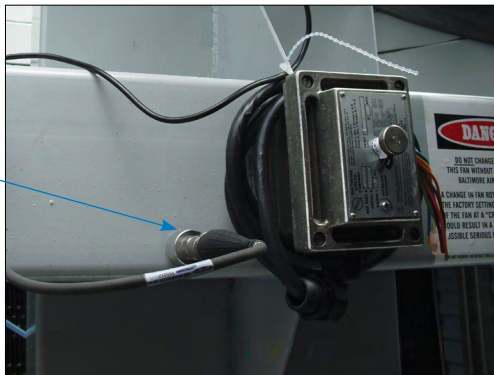

Figure 10. Accelerometer Location - Belt Drive
- Attach the accelerometer (provided by others) onto the box beam as shown in **Figure 10**. The accelerometer should be located away from the center of the web of the box beam, such that the center line of the accelerometer is about 1 inch from the upper or lower edge, as shown. On PFi/PCC-0406 and PFi/PCC-0412 units, the accelerometer should be located directly on the motor base.